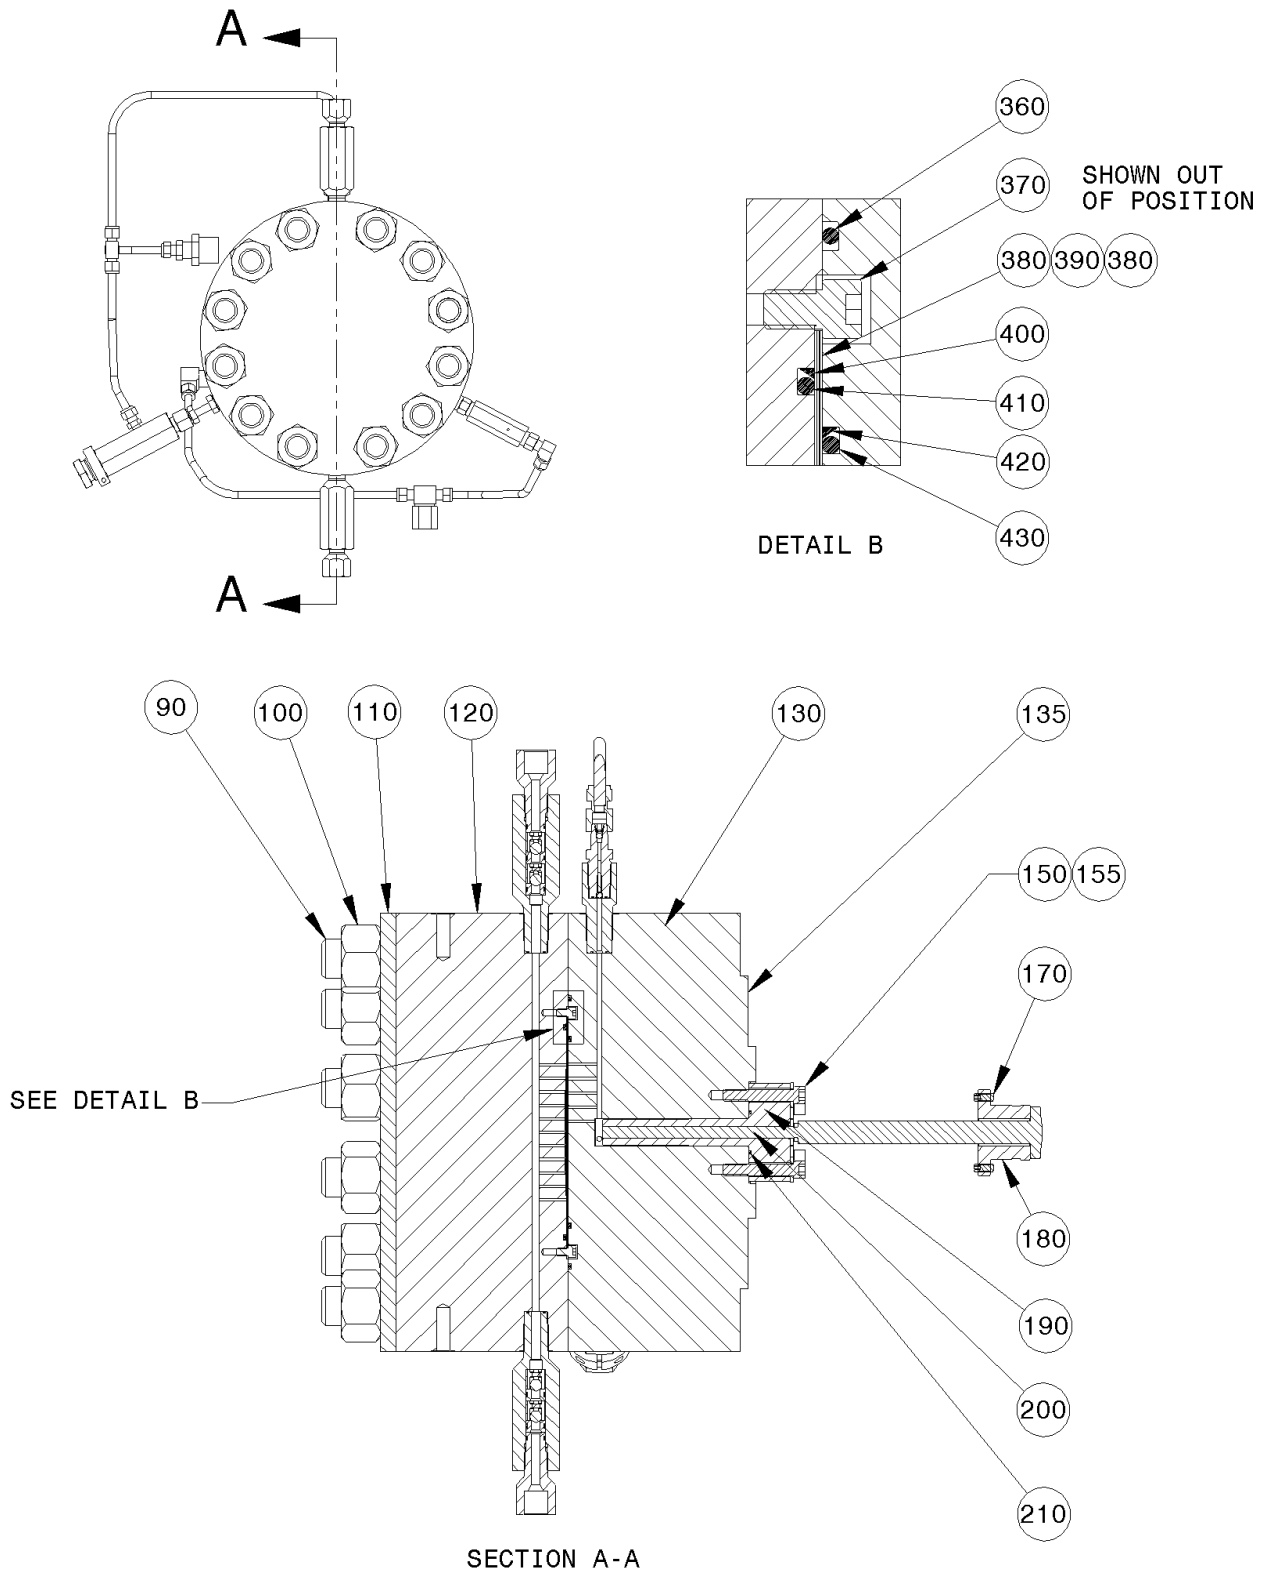

Figure 6: Cross Section of Liquid End (Milroyal C and Primeroyal)
The metallic diaphragms are extremely durable and often last for many years of service. As a preventive measure, however, Milton Roy Company recommends that the diaphragms be replaced yearly to coincide with annual check valve replacement. Refer to Figures 6 and 7 for the following diaphragm replacement procedure.
3. Secure the diaphragms with the 4 screws (370), tightening the screws finger tight only. **Be sure that the diaphragms are approximately centered in the cavity and that they do not hang over the edge of the recessed pocket.**
4. Install a new O-ring (430) into the displacement chamber (130)—**do not apply any lubricant to the O-ring.** Install a new back-up ring (420) being sure that it fully fits into the groove and does not hang over the edge of the groove.
5. Install a new O-ring (360) into the displacement chamber.
6. If the diaphragm head (120) is attached with studs (90) and nuts (100), as in Figure 6, then reinstall the diaphragm head (120) on the displacement chamber (130), using the studs as a guide. If the diaphragm head is attached with cap screws (90), as in Figure 7, then line up the diaphragm head with the displacement chamber, keeping a gap between the parts, and insert a few of the screws to act as a guide. Then slide the head against the chamber. It is important to line up the parts before they contact each other so that the diaphragms are not dislodged.
Under normal operating conditions, it should not be necessary to remove the liquid end. If, however, corrosive media contaminates the hydraulic oil, causing excessive wear or ceasing of the plunger, this may be necessary. See Figures 6 and 7 for the following procedure.
2. Coat the plunger (200) with clean hydraulic oil and insert it into the liquid end. The plunger should be free to slide in and out of the liquid end, but there should not be any noticeable side-to-side motion. Insert the plunger until it bottoms out in the liquid end.
4. **For Milroyal C and Primeroyal drives (See Figure 6):** Slide the plunger (200) into the crosshead and tighten the plunger adapter nut (180) until it bottoms out. Back the plunger adapter nut out about 1/8 of a turn and tighten the set-screws (170). The plunger should be free to rotate, and there should be minimal axial play (less than 1/64"). If the plunger does not rotate, remove the assembly and check for any foreign material.